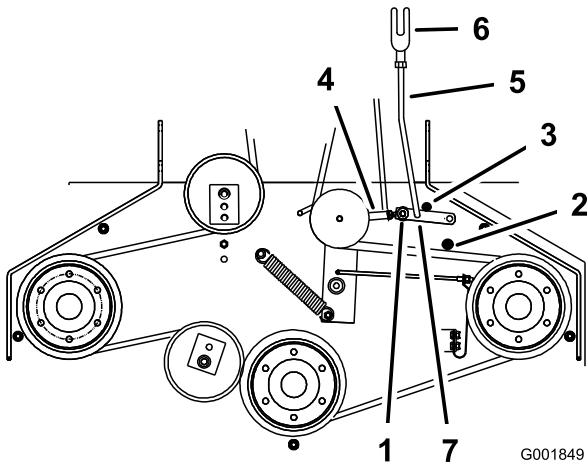

Figure 48
- Make sure the assist arm is against the rear assist arm stop on the deck (Figure 48).
- The assist arm should contact the front assist arm stop on the deck. If it does not contact, adjust the bellcrank so it is closer to the gusset (Figure 48).
8. To adjust the assist arm link, remove the hairpin cotter pin from the assist arm (Figure 48).
11. Install the assist arm link into the assist arm and secure it with the hairpin cotter pin (Figure 48).